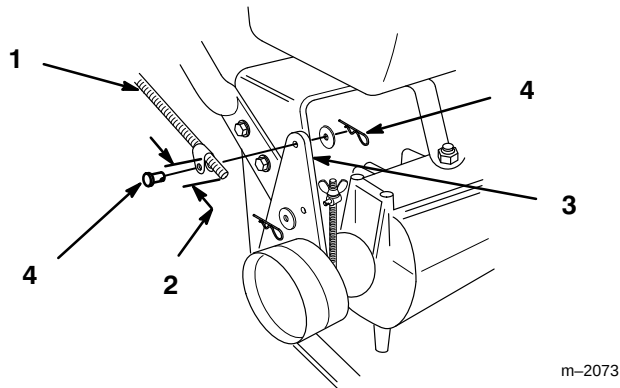

Figure 8
1. Thread rod fittings equal distance onto each control rod. For a starting point thread on approximately 2 in. (51 mm) (Fig. 8).
2. Slide clevis pins through rod fittings and mounting holes in idler brackets (from outside) (Fig. 8). Secure with washers and hairpin cottes (Fig. 8).